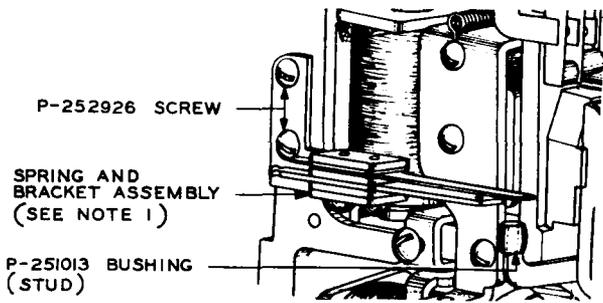

Fig. 3A – Vertical Interrupter Spring and Bracket Assembly and Associated Parts Used With Vertical Armature Assembly Having Vertical Armature Arm
- When replacing the vertical interrupter spring and bracket assembly of the type shown in Fig. 3A, order the following parts.